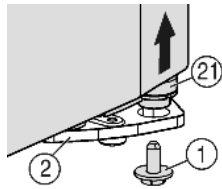
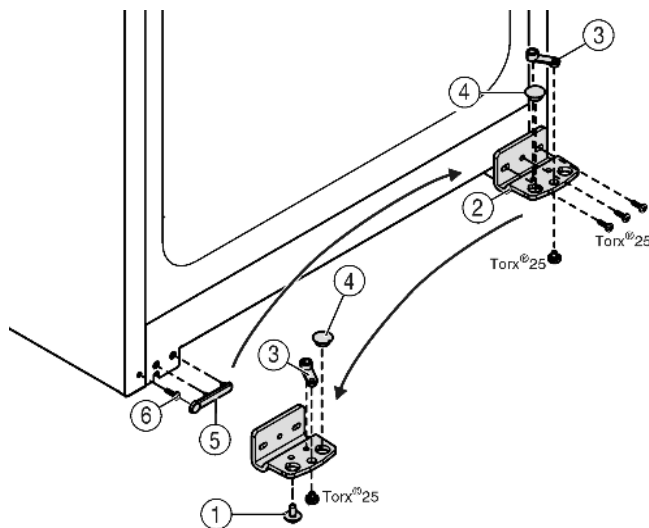

Fig. 5
Fig. 6
- ▶ The bearing pin *Fig. 5 (21)* should come out of the turn hinge *Fig. 6 (2)*.
- ▶ If the bearing bolt *Fig. 5 (21)* doesn't undo press it out from underneath.
- ▶ Unscrew the turn hinge *Fig. 6 (2)*.
- ▶ Unscrew the bearing element, *Fig. 6 (3)* transfer it to the opposite location hole of the turn hinge and screw it firmly into place.
- ▶ Take the stopper *Fig. 6 (4)* out of the turn hinge and transfer it to the receiving hole on the opposite side of the turn hinge.
- ▶ Carefully lift off the cover *Fig. 6 (5)* on the handle side.
- ▶ Undo the screw *Fig. 6 (6)* and transfer it to the opposite side.
- ▶ Put the cover *Fig. 6 (5)* back on.
- ▶ Screw the turn hinge *Fig. 6 (2)* firmly into place on the new hinge side (**with 4 Nm**), possibly using a power screwdriver.
- ▶ Insert the securing screw *Fig. 5 (1)* at the bottom into the bearing pin and tighten it (**with 4 Nm**).